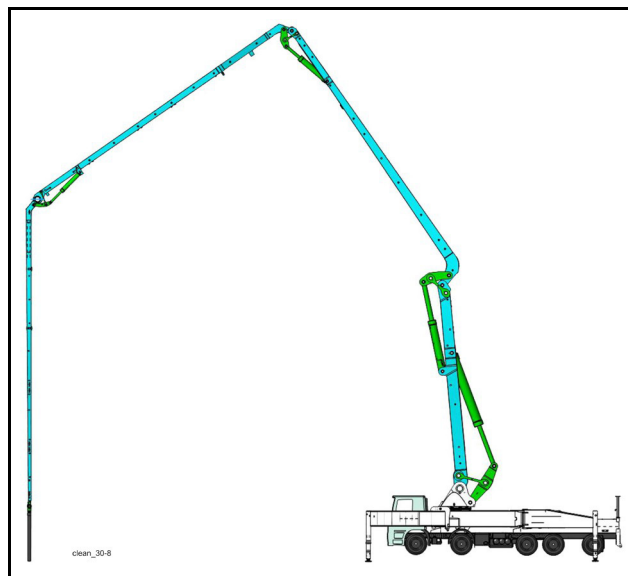

Fig. 115 Cleaning position for placing boom (schematic diagram)
- Position the placing boom as shown in **(Fig. 115)**.